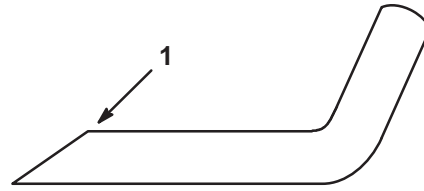

Figure 26
6. SHARPENING BLADE—Using a file, sharpen top side of blade and maintain original cutting angle (Fig. 26). The blade will remain balanced if same amount of material is removed from both cutting edges.